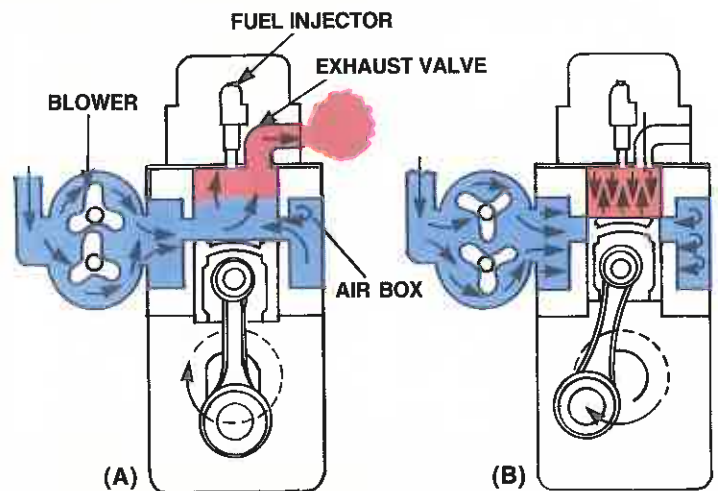

FIGURE 16-25 A two-cycle diesel engine is used in many heavy-duty applications.
Another type of two-cycle engine is manufactured by General Motors (GM). This two-cycle engine is shown in Figure 16-25. The major difference is that a blower forces air through an air box, ports, and into the cylinder when the piston is at BDC, as shown in Figure 16-25A. The piston then comes up on the compression stroke, Figure 16-25B.